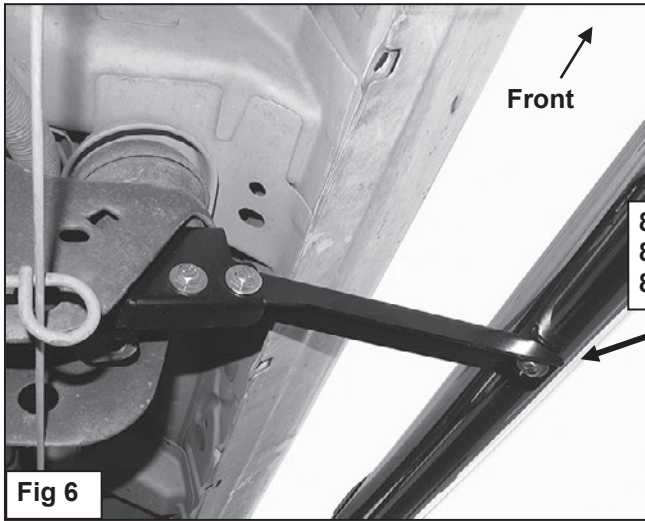

Fig 6
7. Attach the center Mounting Bracket to the Sidebar with the included (1) 8mm x 25mm Hex Bolt, (1) 8mm Lock Washer and (1) 8mm Flat Washer, **(Figure 6)**. If the Bracket does not line up with the insert, it may be necessary to loosen the body bolt slightly to move the Bracket. Do not tighten the 8mm hardware at this time.